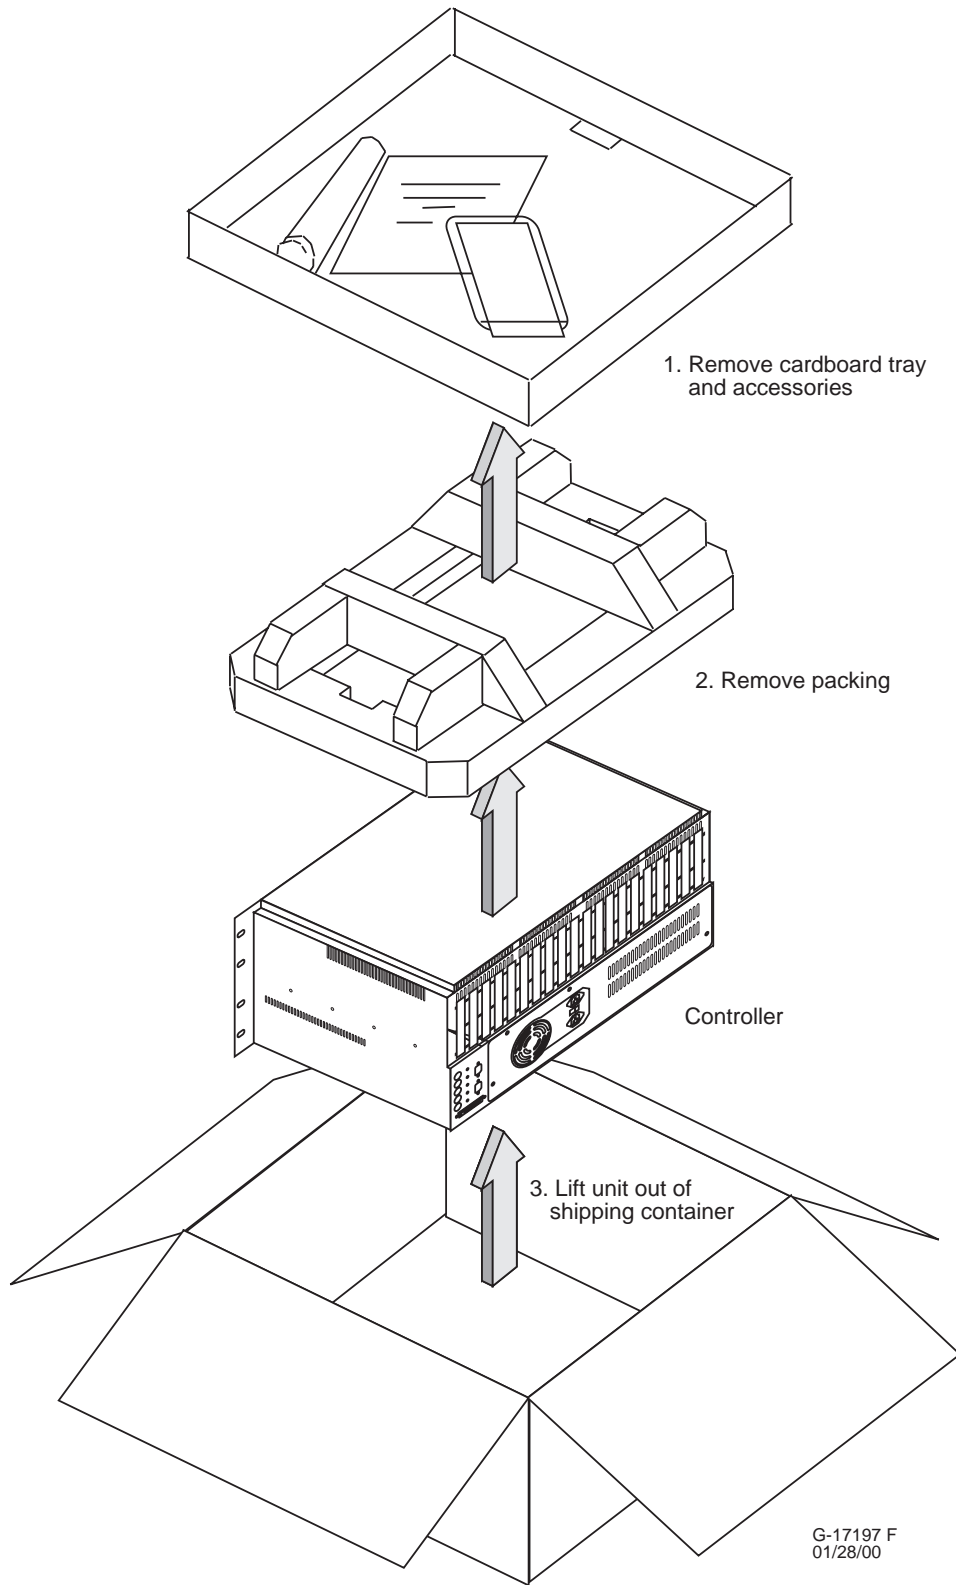

Figure 2-1 Unpacking the System Controller
1. Remove the System Controller and accessory packages from the packing container as shown in Figure 2-1. Also refer to the unpacking instructions shipped with the Controller.